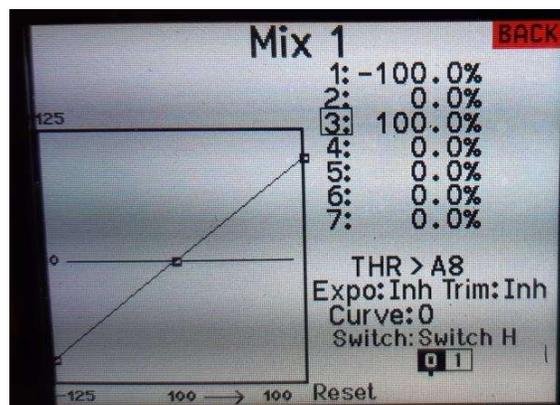

Fig:3
- Choose THR > A8 and Switch H (or your switch of choice) Fig:3.